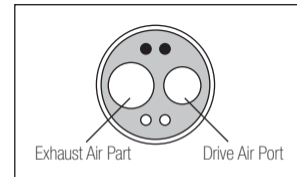

Fig. 7
- 3) Insert the Spray Nozzle into the Drive Air Port of the motor. Hold the motor and spray for approximately 2-3 seconds. Apply lubricant until it expels from the exhaust air part for at least 2 seconds. (Fig. 7)
- 2) Apply 1-2 drops of lubrication oil into the Drive Air Port shown in the Fig. 7.